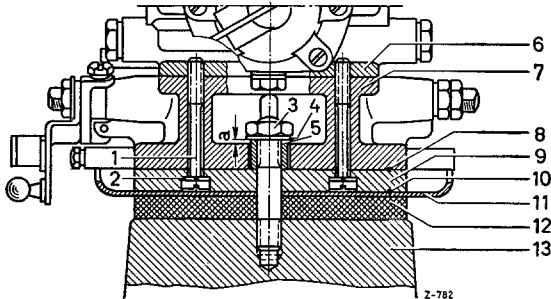

Fig. 01-4/3
The purpose of the spacer sleeves is to ensure that the tightening torque is transferred not to the carburetor flange (7), but to the grey cast iron flange (9). For this reason the spacer sleeves must project beyond the carburetor flange by the distance "a" = appr. 0.2 mm (Fig. 01-4/3).